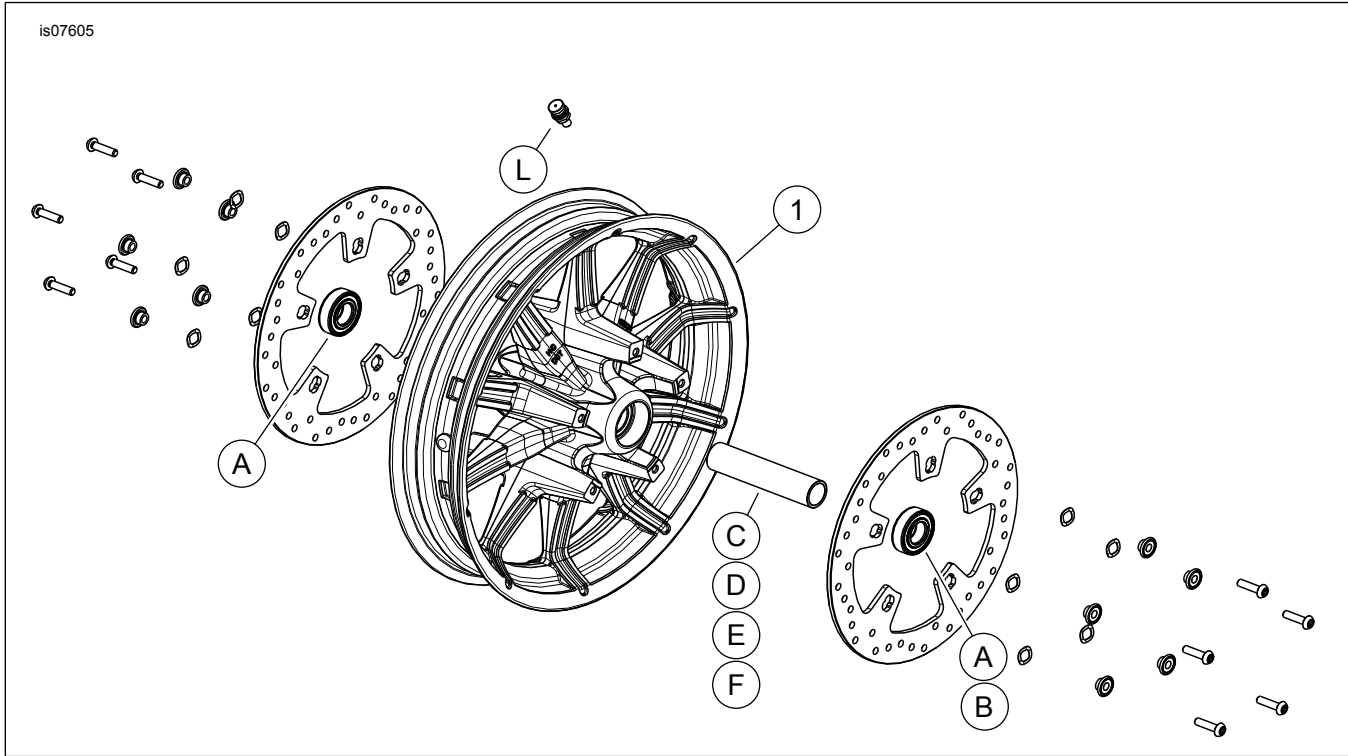

Figure 1. Service Parts: FRONT IMPELLER WHEELS
2. See Figure 1. Install valve stem assembly (L) on wheel. Refer to TIRES in service manual.